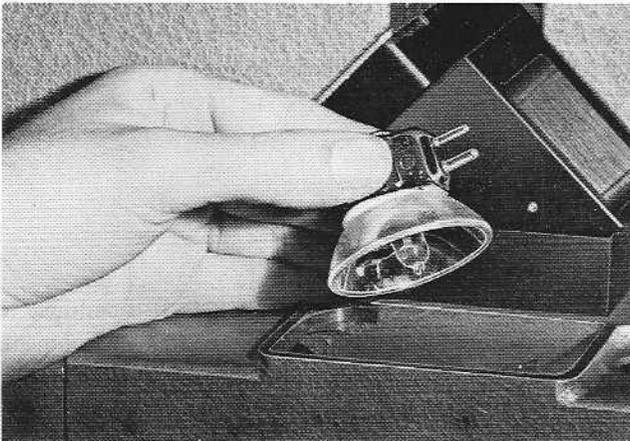

Figure 20. Replacement of Projection Lamp
**6.3 REPLACING PROJECTION LAMP.** Make sure POWER Switch is in OFF position. To change the projection lamp, the ventilator plate must first be removed from the top of the viewer. The projection lamp can be removed by pulling it out of its spring-loaded socket (see Figure 20).